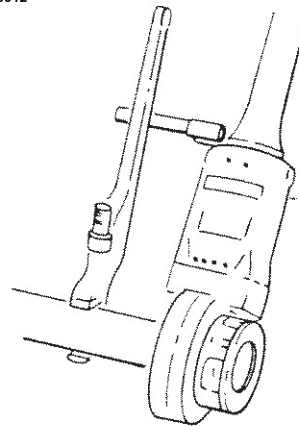

FIGURE 3
11. Place 14" wrench on pipe (Fig. 3) and rest handle on stationary support rod. Be sure to leave ample space between Amaz-O-Thred and pipe wrench; space must be greater than length of thread to be cut.